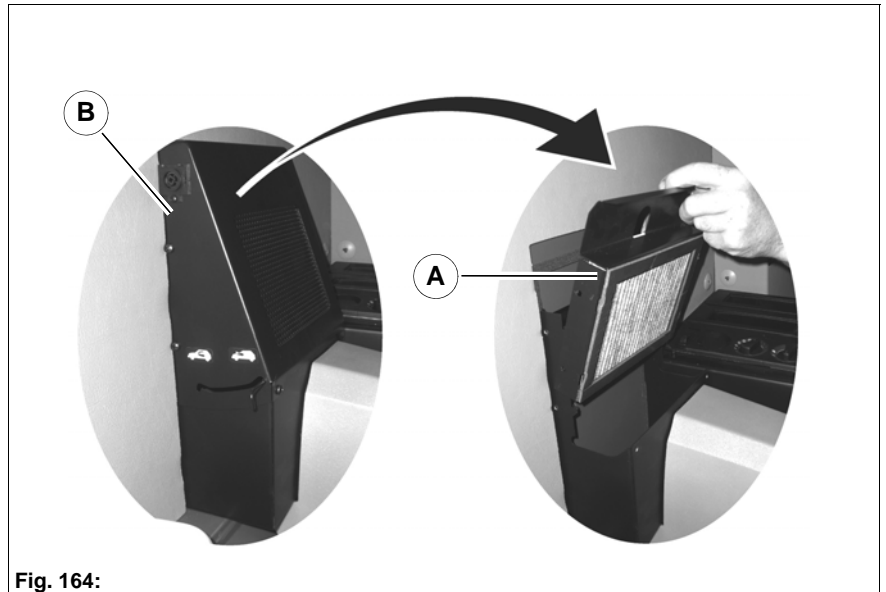

Fig. 164:
Observe the Safety instructions – Air conditioning system, see page 205. Check the plate filter **Fig. 164-A** for contamination at regular intervals. Maintenance intervals according to maintenance plan, see page 167.
2. Loosen the bolts of the plate filter housing **Fig. 164-B** and remove the plate filter housing.